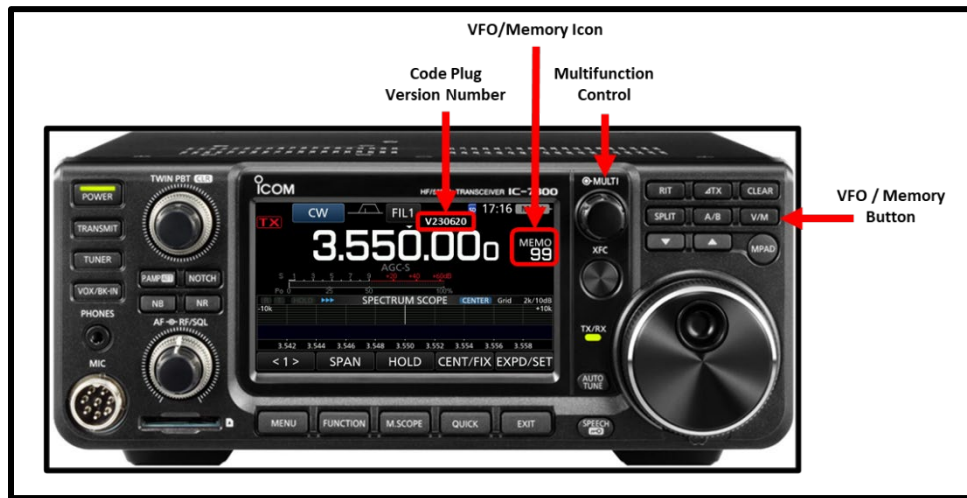

Figure 9. IC-7300 Controls and Indicators
1. Verify that the transceiver is operating in memory mode. When in memory mode, **VFO/ Memory Icon** will display **MEMO** and the memory channel number. When in VFO mode, the Icon will display **VFO**. If the transceiver is operating in VFO mode, depress the **V/M** button to toggle the transceiver to memory mode. Refer to Figure 9 for control and indicator locations.
3. The version number for the code plug currently installed in the transceiver is displayed in the tag area above the frequency. Refer to Figure 9 for the location of the code plug version number.